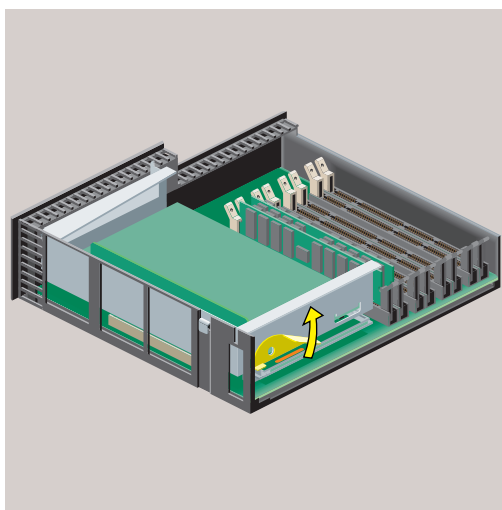

Figure 5-1 Releasing the PCI Tray on the R5000 Workstation
2. Release the PCI tray by pushing up the lever on the side (Figure 5-1). The tray pops up.